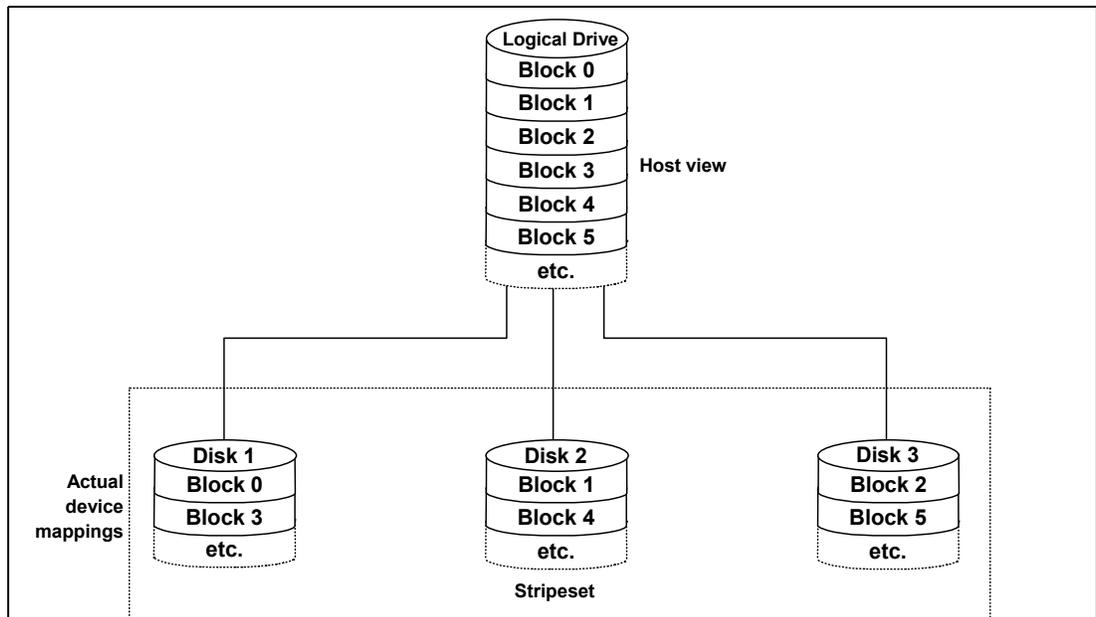

Figure 4-16 RAID-0
- ▶ RAID-0: For performance, but generally not recommended (Figure 4-16)